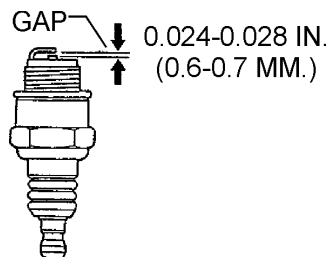

Figure 26. Spark Plug Gap
- Remove and clean the spark plug (Figure 26), then adjust the spark gap to 0.024 ~0.028 inch (0.6~0.7 mm). This unit has electronic ignition, which requires no adjustments.